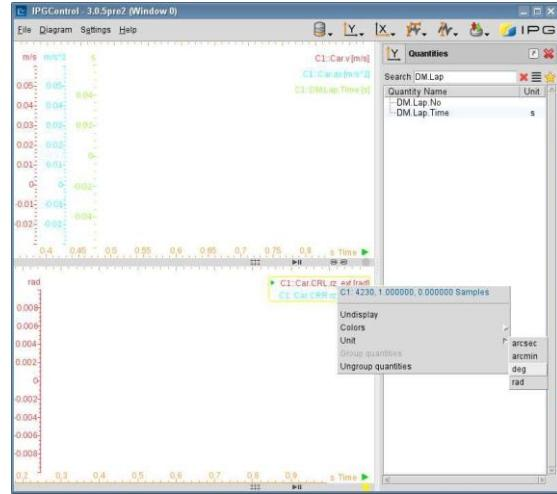

Figure 3.44: Context menu opens with RMB on plotted value
- Then click RMB on the active UAQ (see Figure 3.44). Once clicked, the context menu appears and presents a variety of options. Choose *Unit of Selected Quantities > deg* for both UAQs and "fit the data totally" in the drawing field.